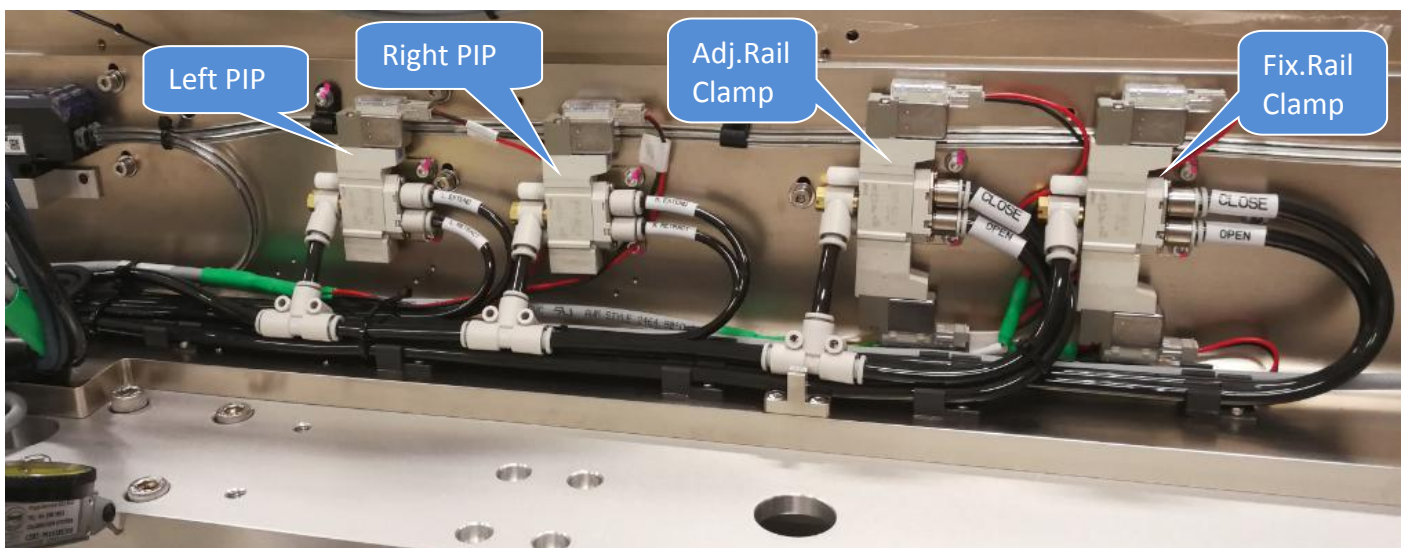

Figure 2 Right PIP Pneumatic Valve Location
5. Identify Right PIP Pneumatic Valve Location by refer to below Figure 2